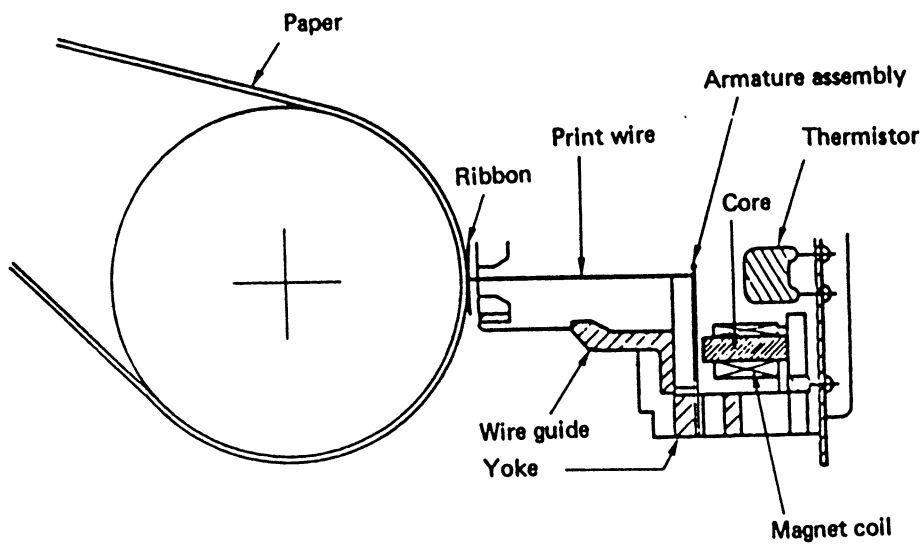

Figure 3
3.2.1 The Printhead Mechanism and Its Operation (see figure 3)